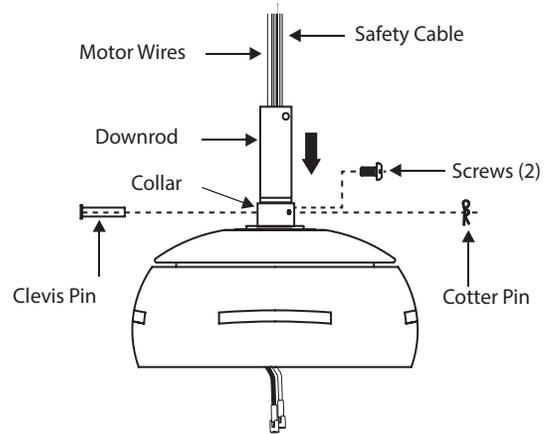

FIGURE 9
2. Remove the clevis pin and cotter pin, and loosen the two collar screws from the motor collar (Fig. 9).
4. Align the holes of downrod and collar and insert the cotter pin and clevis pin. Tighten the two collar screws (Fig. 9).